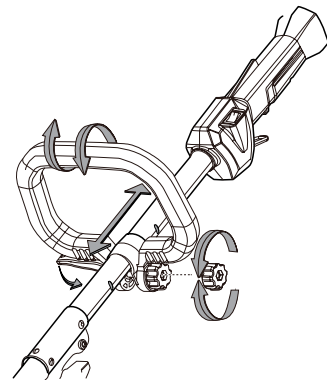

Fig. 2
1. Flip the lever down and turn the nut counterclockwise to loosen the handle (Fig. 2).